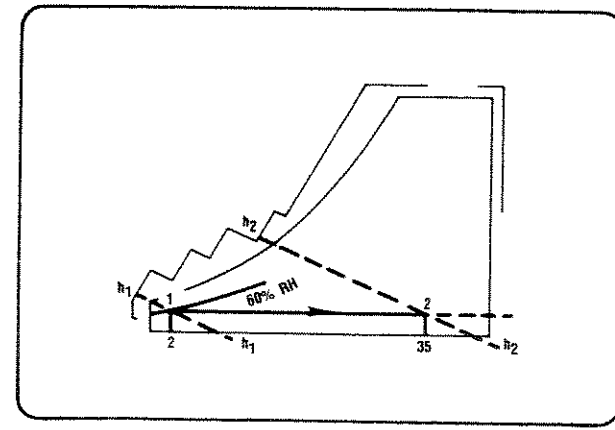

FIGURE 4
- Problem 4: Sensible Heating Process Refer to Figure 4.